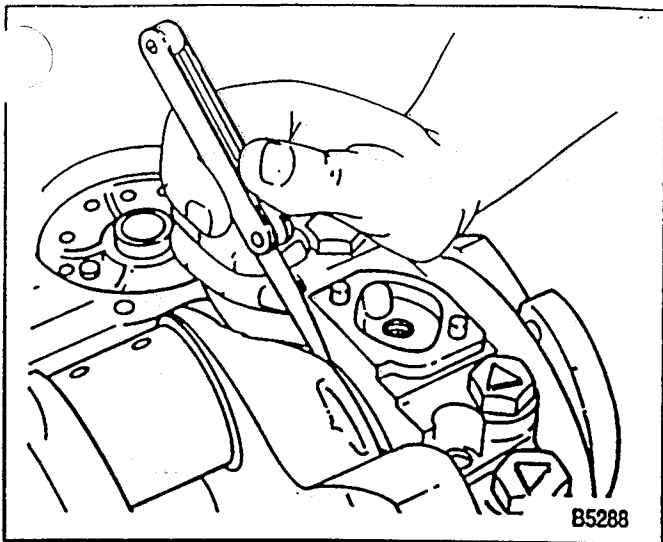

Figure 71—Measuring Crankshaft End Play
M Measure (Figure 71)
- B. With the crankshaft wedged forward, measure at the front end of the rear main bearing with a feeler gage (figure 71). The proper clearance is 0.0508-0.1524 mm (0.002-0.006-inch) (5.0L and 5.7L engines) or 0.0508-0.2540 mm (0.002-0.010-inch) (7.4L engines).